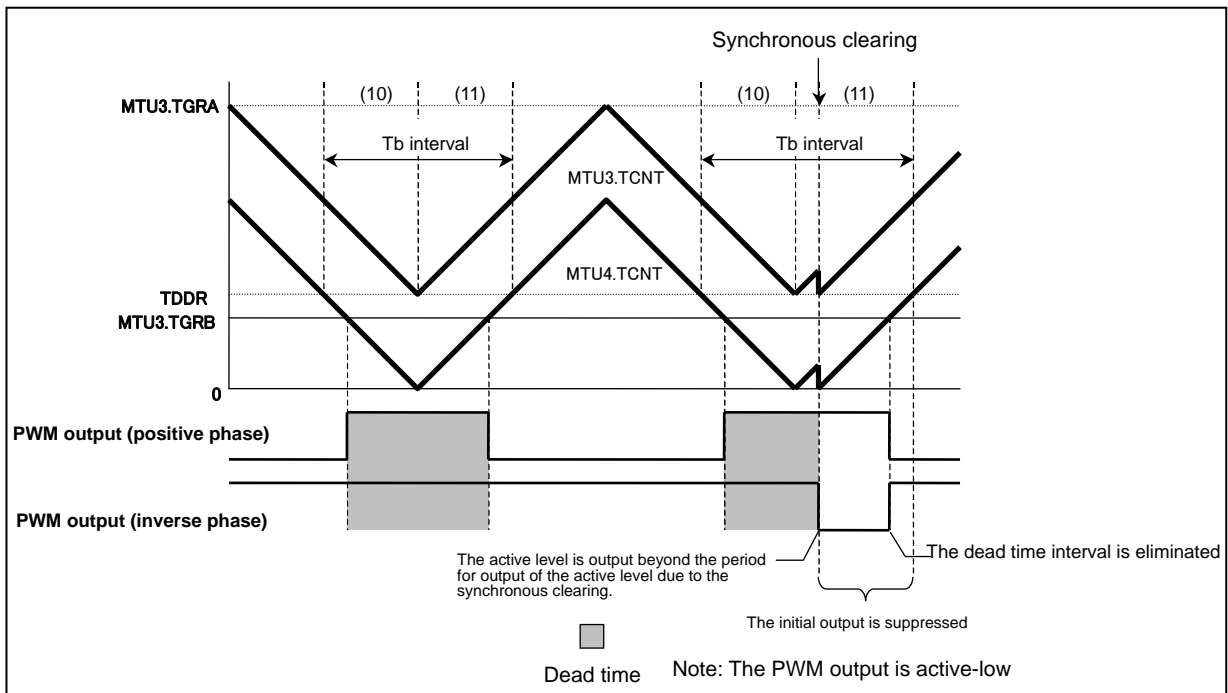

Figure 2 Synchronous Clearing under Condition (2)
Condition (2): If any of the duty-cycle registers (MTU3.TGRB, MTU4.TGRA, MTU4.TGRB, MTU9.TGRB, MTU10.TGRA, MTU10.TGRB) is set to a value less than that in the dead-time register (TDDR), synchronous clearing is generated in the initial-output suppression interval labeled (10) and (11) in Figure 2.